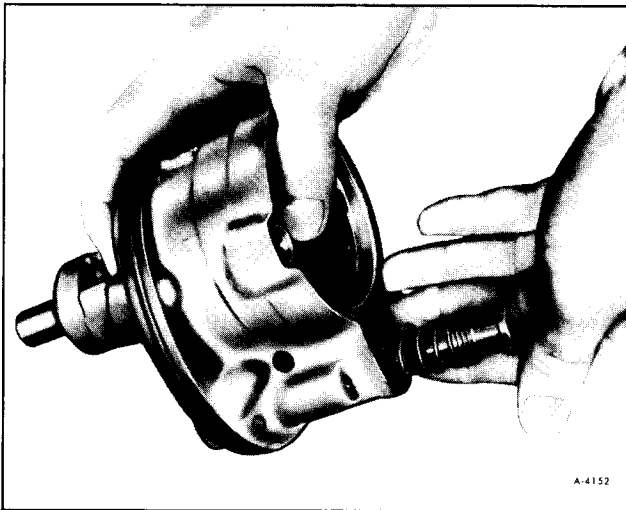

Figure 13—Removal of Relief Valve
7. Remove pump from vise and invert. Flow control valve and valve spring will fall free. (figure 13).